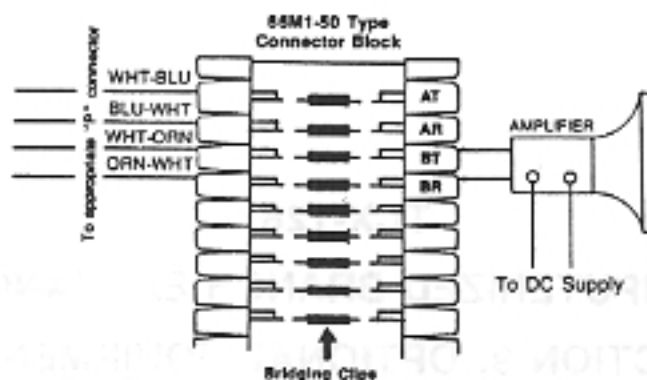

Figure 9-1 TYPICAL ALTERNATE AUDIO PORT CONNECTIONS, TCX-128
- 3.06 External page zone audio is available at the alternate audio ports programmed in Section 6. The audio outputs are accessed by cross connecting the "B" pairs of the alternate audio ports to the external amplifiers (Figure 9-1). The page relays may be used to switch the amplifier DC supplies, turning the amplifiers on and off, if required.